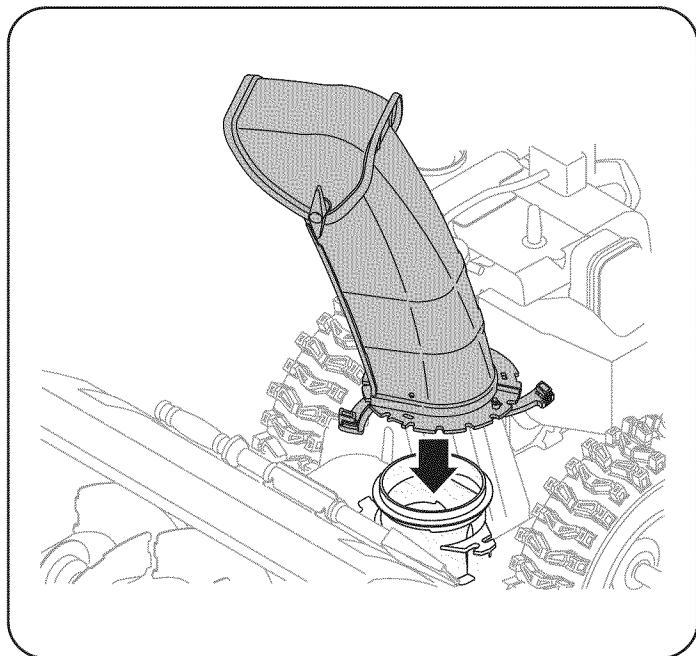

Figure 3
4. Pivot flange keepers out and position the chute assembly over the base. See Figure 3.